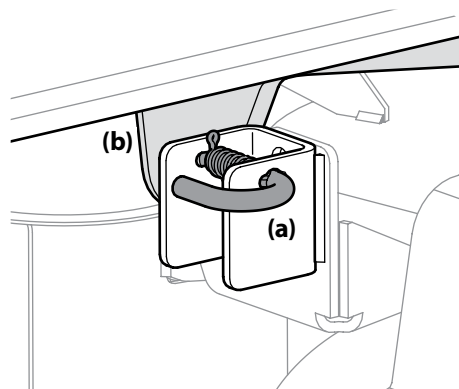

Figure 4-17
10. Locate the LH and RH deck release pins (a) on each side of the deck. Pull the deck release pins (a) outward and release the deck from the LH and RH deck lift arms (b). See Figure 4-17.
4. Pull the deck release pins outward and maneuver the deck as necessary to align the holes in the deck lift arms with the pins. Refer to Figure 4-17.